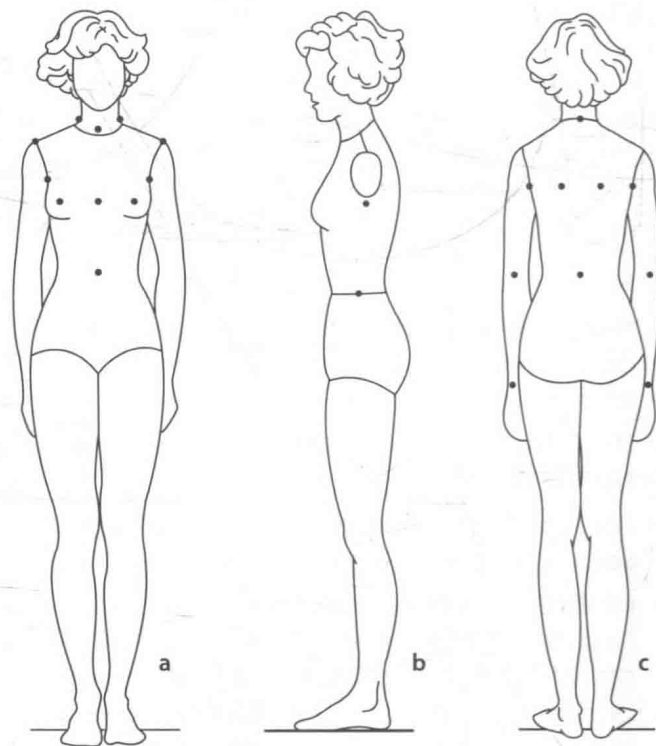

FIGURE 5.1 (a–c) Breakpoints marked on the body with a water-soluble pen are easily removed.
4. Mark the body and the clothes the person is wearing as described below. For the body, mark dots using a water-soluble pen; for fabric, use tiny pieces of transparent tape (see Figure 5.1). Alternatively, you can place narrow ($\frac{1}{8}$ - to $\frac{1}{4}$ -inch) masking tape at center front and center back locations, shoulder seams, and side seams. Then,